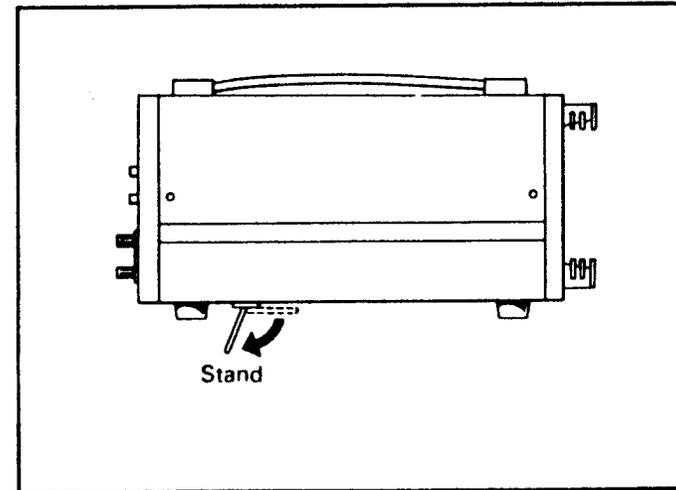

Fig. 2. Use of Tilt Stand.
20. **Tilt Stand** (Refer to Fig. 2). Elevates front of instrument for convenient viewing angle.